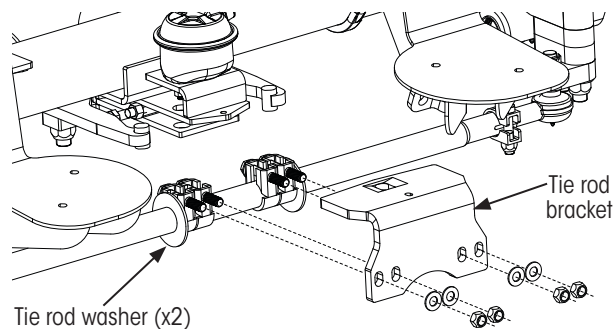

Figure 11: Lock-straight tie rod bracket
2. **Remove** the four tie rod bracket locking clamp bolt, nut and washers (Figure 11). **Save** for reassembly.
1. **Install** tie rod bracket, as shown in Figure 11, using hardware removed in Step 2 of REMOVE TIE ROD BRACKET on page 10 . **DO NOT** tighten at this time.